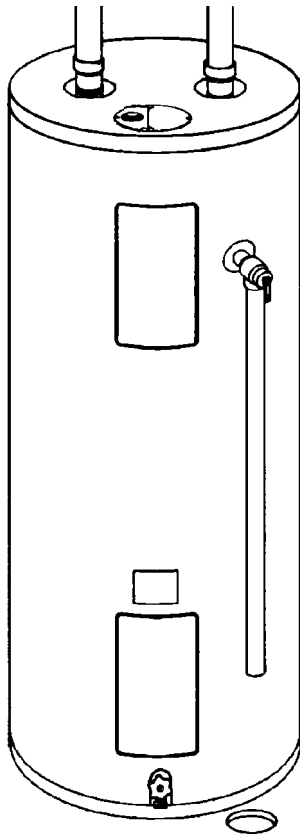

FIGURE 8.
1. Position the water heater so that the existing piping and electrical hookup will require the shortest distance between connections. Make sure that you are able to reach the drain valve and all access panels when the water heater is in place, see Figure 8. This will make it easy to service the water heater. The water heater must be level before you begin the piping.